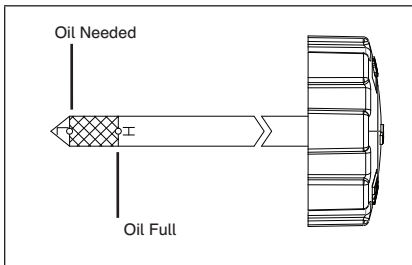

Figure 14
4. If the oil level is near or below the lower limit mark on the dipstick, remove the oil cap/dipstick, and fill with the recommended oil to the upper limit mark. Do not overfill. (Fig. 14)